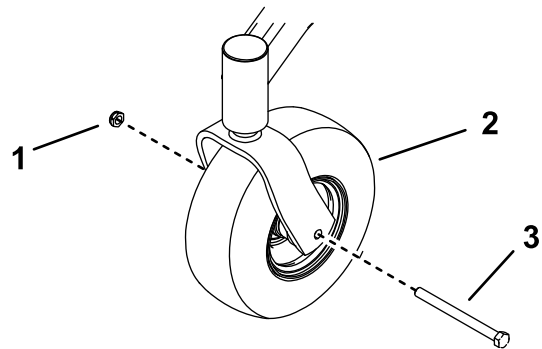

Figure 1
1. Remove the locknut and bolt holding the caster wheel to the caster fork (Figure 1). Remove the wheel.
2. Use the locknut and bolt to install the pneumatic caster wheel (Figure 1). Ensure that the valve stem faces outward from the machine. Torque the bolt to 91 to 113 N·m (67 to 83 ft-lb).